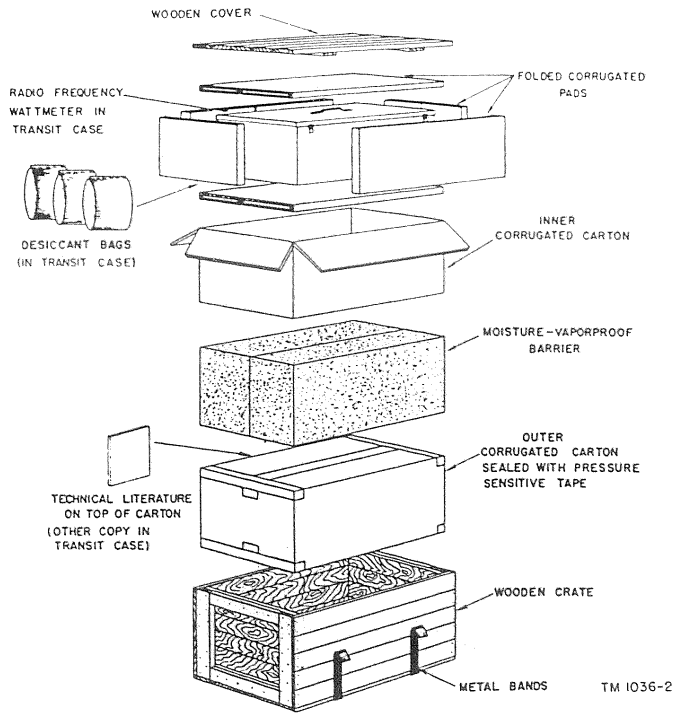

Figure 2. Packing and Packaging, TS-118A/AP
When packaged for export, RF Wattmeter TS-118A/AP unit and all components of the equipment are placed in the waterproof Transit Case CY-1764/UPM with ample supply of desiccant. This case seals by means of four spring loaded latches at the sides. The Transit Case is nested (with cardboard filler at top and bottom and all sides) in a packing carton fully sealed with Kraft gummed tape. This carton is heat sealed in a waterproof-vaporproof barrier qualified for Class B protection and placed in another carton which is sealed at open seams with pressure sensitive tape. The package is then placed in an approved wooden shipping box and bound with two steel binding straps. Exploded view of this packaging is illustrated in Fig. 2.
b. Step-by-step Instructions for Uncrating and Unpacking Export Shipments Fig. 2.
(1) Place the packing case as near the operating position as convenient.
(2) Cut and fold back the steel straps.
(3) Remove the nails with a nail puller. Remove the top and one side of the packing case. Do not attempt to pry off the sides and top; the equipment may be damaged.
(4) Remove the sealed carton and any excelsior or corrugated paper covering the equipment from the packing case. Break the sealing strips from the top of the carton, along the center line and at the ends, then pry open the carton and remove contents.
(5) Strip off the waterproof barrier, and break open the inner cardboard carton.
(6) Remove Transit Case, CY-1764/UPM from the cardboard carton, and open the cover by lifting out the four spring latches at the sides.
(7) Remove the equipment from its transit case and place it on the workbench or near its final location.
(8) Inspect the equipment for possible damage incurred during shipment.
(9) Check the contents of the packing case against the master packing slip.